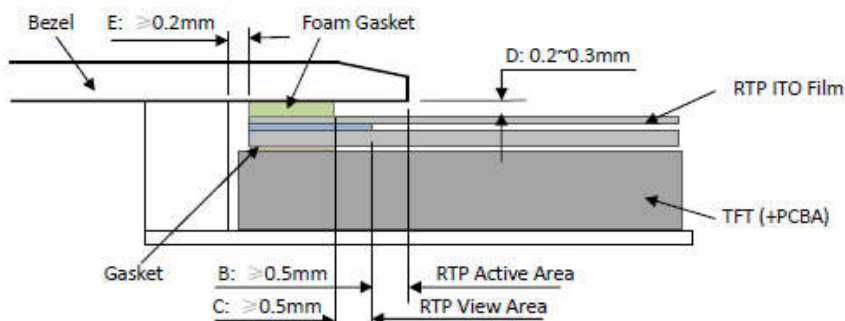

Figure 4
- It should bezel touching the RTP Active Area (A.A.) to prevent abnormal touch.It should left gab D=0.2~0.3mm in between. (Figure 4)
- Outer bezel design should take care about the area outside the A.A. Those areas contain circuit wires which is having different thickness. Touching those areas could de-form the ITO film. As a result bezel the ITO film be damaged and shorten its lifetime. It is suggested to protect those areas with gasket (between the bezel and RTP).The suggested figures are $B \geq 0.50\text{mm}$; $C \geq 0.50\text{mm}$. (Figure 4)
- The bezel side wall should keep space E= 0.2 ~ 0.3mm from the RTP. (Figure 4)
- 为避免面框直接压在动作区(A. A.)上造成误动作, 面框与电阻触摸屏(RTP)之间应留有一定的空隙 $D=0.2 \sim 0.3\text{mm}$ 之间. (附图 4)
- 设计面框时, 要注意用面框保护触摸屏四周的非保证操作区域, 因为布线区域在此处形成一台阶, 在此区域附近操作时 ITO Film 变形较大, 容易导致 ITO 损坏而降低寿命. 为保护 RTP 和避免误操作, 在 RTP 与面框之间垫缓冲物(Gasket), 我们建议设计面框应覆盖动作区的边缘, 面框边缘到 V. A. 区的距离 $B \geq 0.50\text{mm}$; 垫圈内边缘到 V. A. 区的距离 $C \geq 0.50\text{mm}$. (附图 4)
- 在设计面框与 RTP 组装时, 应考虑到面框内侧与 RTP 外侧的间距 $E \geq 0.2\text{mm}$. (附图 4)